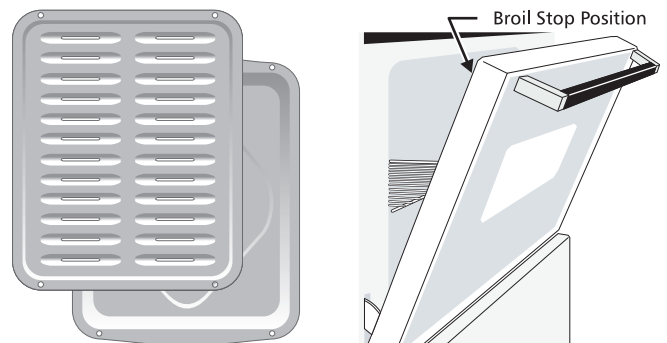

Figure 24: Broil pan and insert (L) Door in position when broiling (R).
6. Place the broiler pan and insert on the oven rack. Broil with the oven door open to broil stop position (Figure 24).